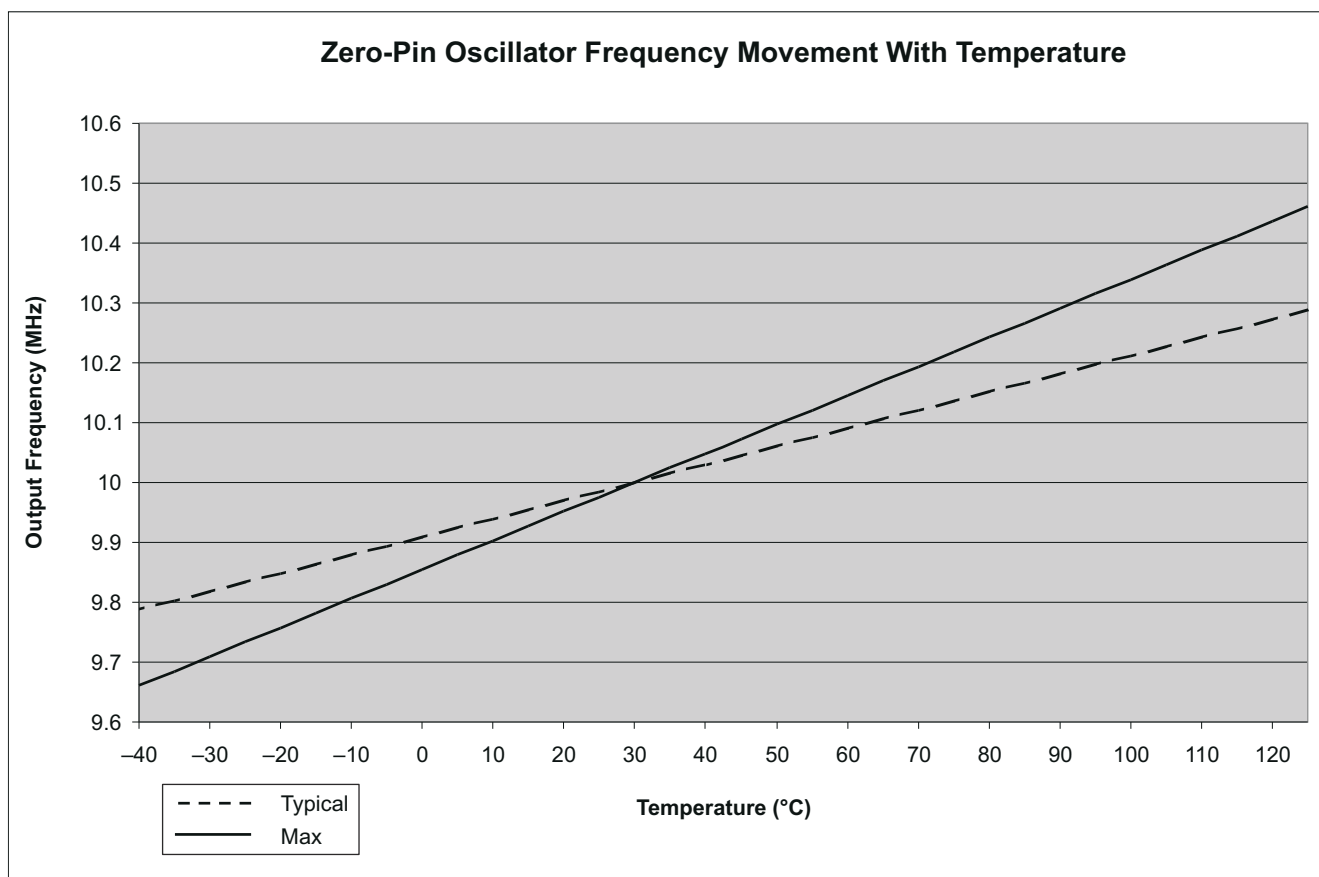

图 7-9. Zero-Pin Oscillator Frequency Movement With Temperature
- (1) Oscillator frequency will vary over temperature, see 图 7-9. To compensate for oscillator temperature drift, see the Oscillator Compensation Guide and C2000Ware.
- (2) Frequency range ensured only when VREG is enabled, $\overline{\text{VREG}} = V_{\text{SS}}$.
- (3) Output frequency of the internal oscillators follows the direction of both the temperature gradient and voltage (V_{DD}) gradient. For example: